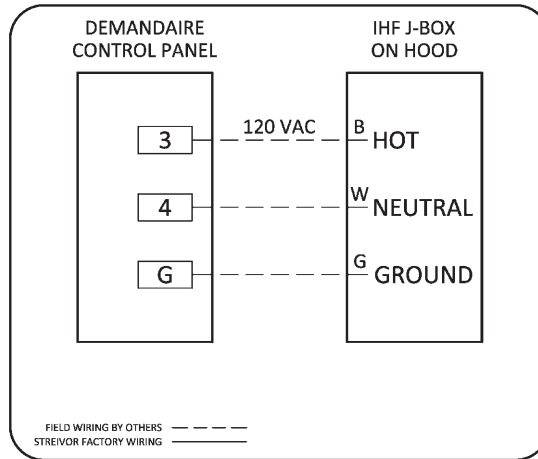

FIGURE 7: Internal Hood Fan Power Circuit Wiring
- Connect 120 VAC single phase power from terminal block 3 (hot), terminal block 4 (neutral), and ground in the control panel to the wires labeled "IHF" in the junction box on each hood (*Figure 7*).